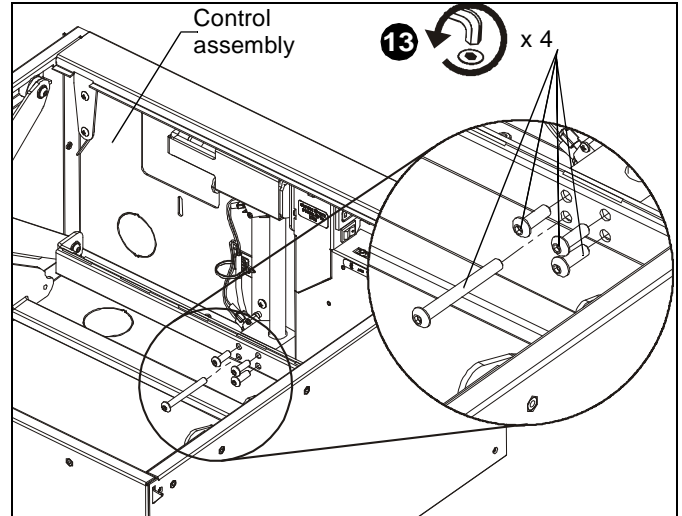

Figure 7
13. Remove four screws from bracket near control assembly. (See Figure 7)